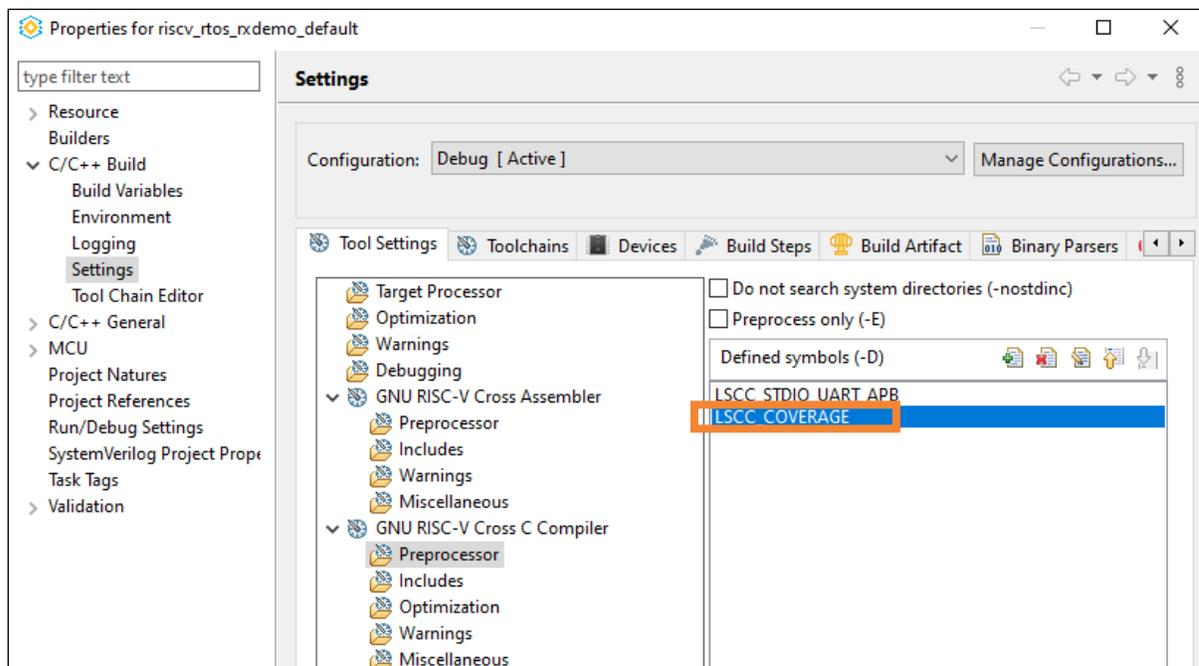

Figure 5.8. Defined Symbols
3. Select **GNU RISC-V Cross C Compiler > Preprocessor**. Add the defined symbol, `LSCC_COVERAGE` (Figure 5.8).